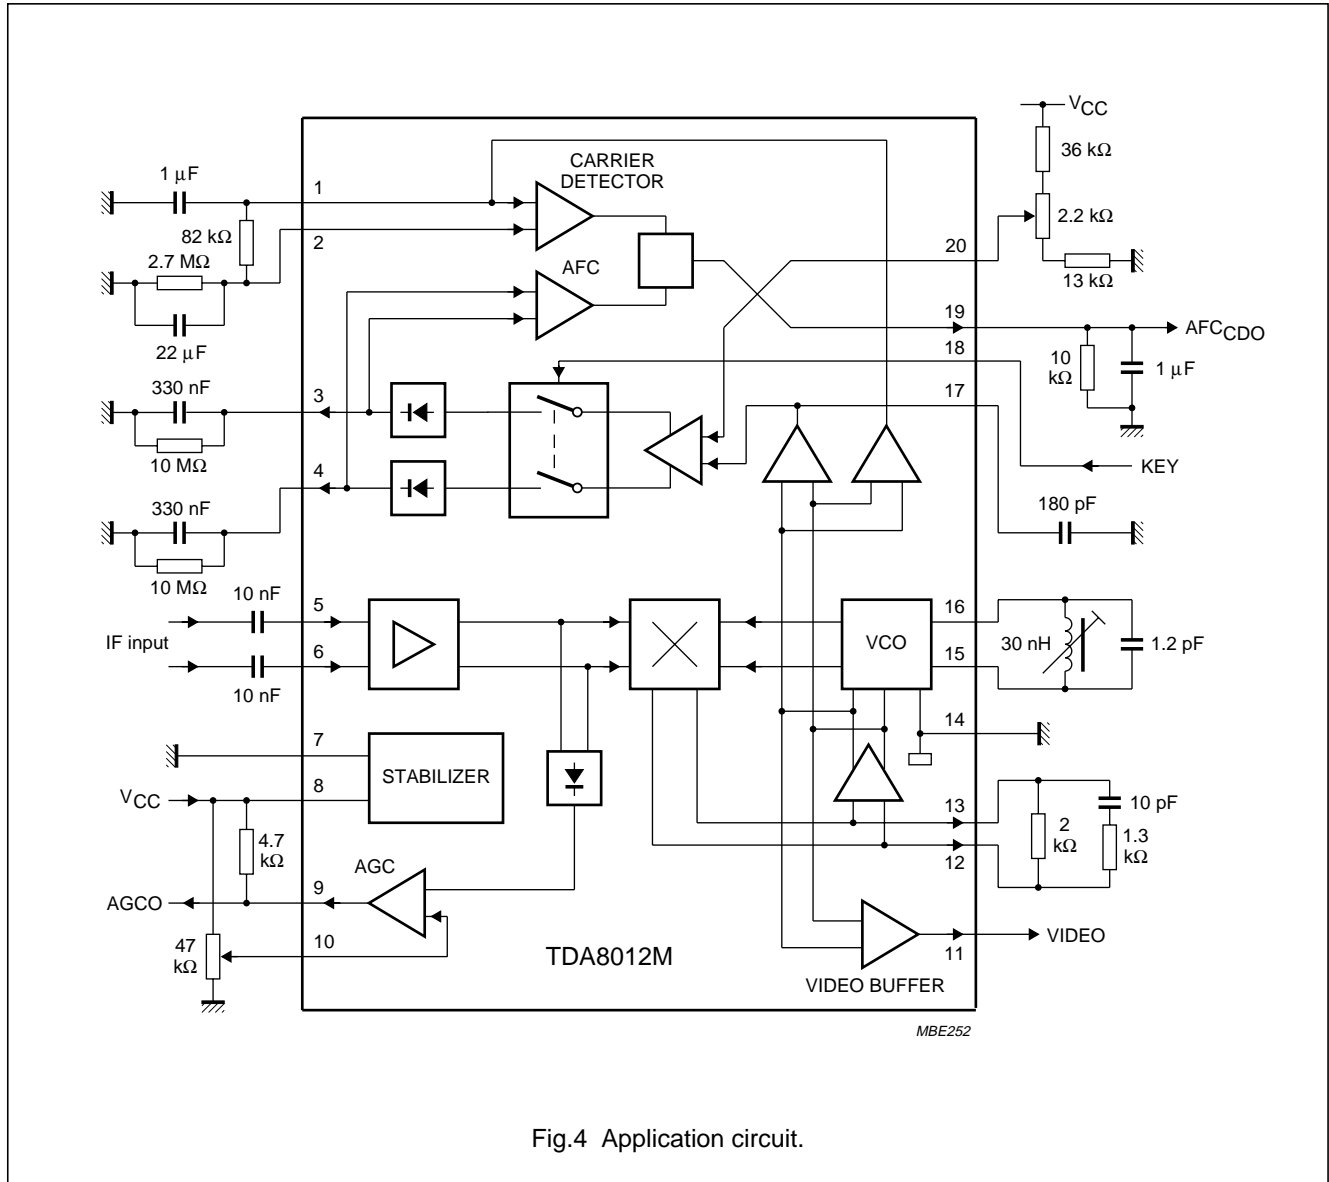

Fig.4 Application circuit.
$V_{CC} = 5\text{ V}$ ;  $f_i = 480\text{ MHz}$ ;  $V_i = 57\text{ dB}\mu\text{V}$ ;  $T_{amb} = 25\text{ }^{\circ}C$ ; measured in application circuit of Fig.4; unless otherwise specified.
9. The characteristics of the AGC function are measured in the application circuit of Fig.4. The circuit illustrated in Fig.4 has been designed to set the maximum AGC current of 1 mA. The output of the AGC function is capable of handling up to 5 mA. The maximum AGC current can be increased to 5 mA by decreasing the value of the resistor connected between pins 8 and 9.
10. In the application circuit (see Fig.4) the voltage at the AGC output decreases when the IF input level increases above the adjusted AGC threshold.